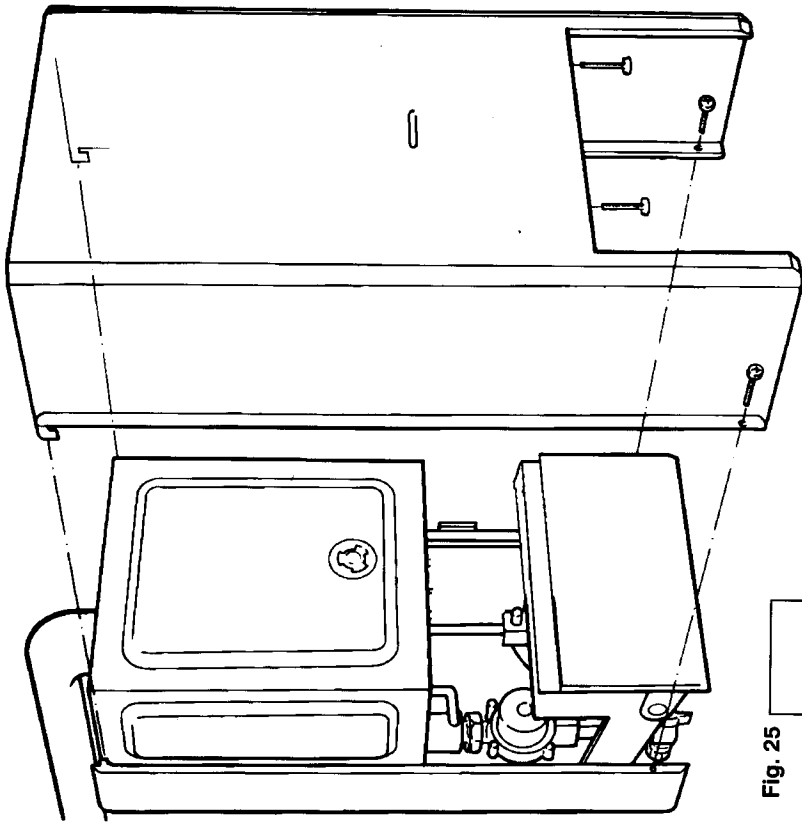

Fig. 25
6.15 Refixing the Front Cover (fig. 25)
6.15.1 Offer up the front casing to the back frame in a near vertical attitude and locate the hooks on the casing over the hooks on the frame. Slide the casing downwards to fully engage the hooks and to align the bottom fixing holes. Replace the four case retaining screws, fig. 25).